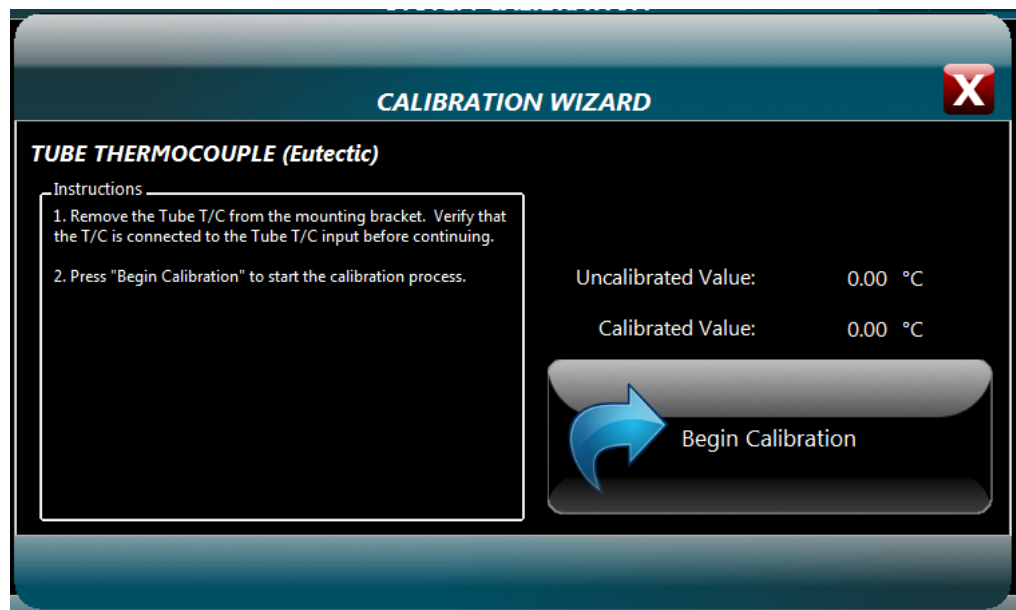

Figure 79 – Eutectic Calibration Wizard display with Begin button
1. Select the 'Begin Calibration' button on the Calibration Wizard display to start the process (figure 79).